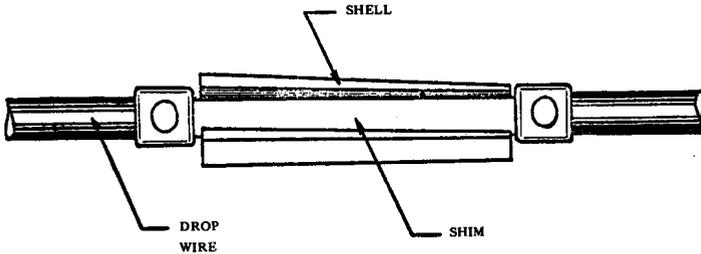

FIGURE 3. Insert Shim In Clamp Shell
- d. Place the plastic shim under the drop wire inside the clamp shell by inserting the shim edgewise and twisting its end until the shim snaps in place. See Figure 3.